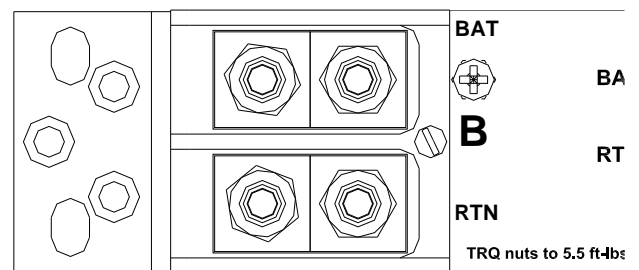

Figure 4.4.1
4.4. Remove the distribution fuse feeding the input cables that are to be connected to the new panel. Using input cables specified by the Job Engineer, hook up the input cables to the input terminal block on the fuse panel (“BAT” & “RTN” for each bus). Each high current input terminal uses a two hole compression lug (1/4” on 5/8”, torque to 5.5 ft-lbs). a two hole lug must be used for proper operation (see fig 4.4.1)